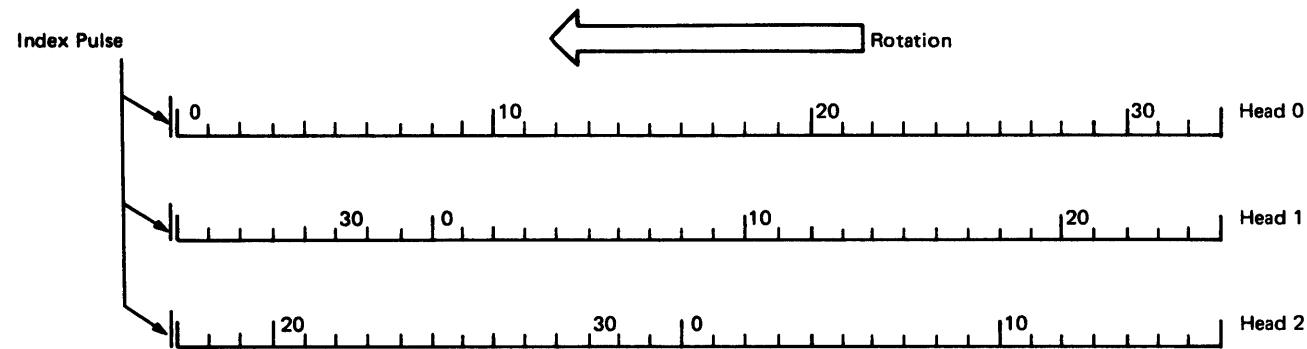

Figure FA452-7. Spiraling
**Spiraling.** Large volumes of data are sometimes required to be read or written on sequential sectors and tracks. In these cases, after all remaining sectors on the first track have been written, the next sequential head is selected and writing continues on the next track. A maximum of eight sectors is required for the read/write circuit to stabilize after a head change; therefore to ensure that data transfer can continue with the minimum interruption, sector addresses on each succeeding track are displaced by eight sectors (see Figure FA452-7). This avoids the requirement to wait for a full disk rotation before restarting the read or write operation. Fixed heads do not follow this principle as they are not intended for use with bulk data.